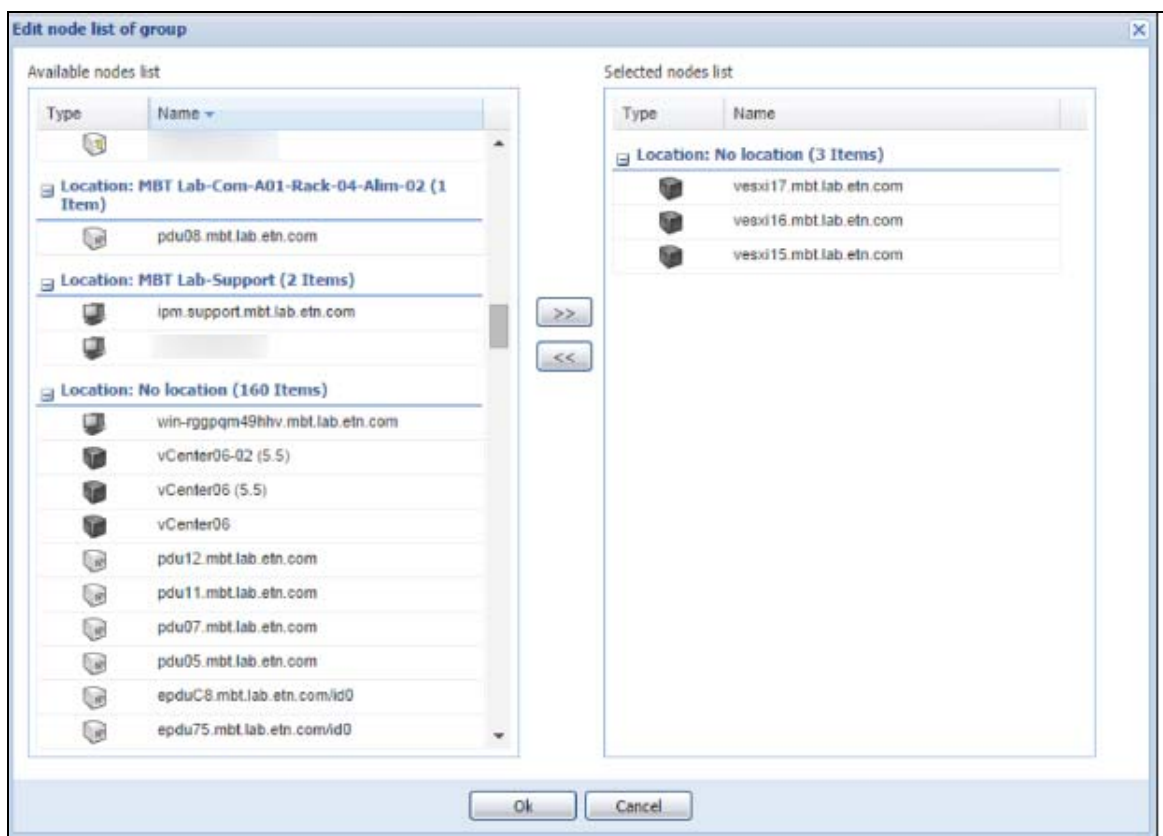

Figure 236. Edit Node List of Configuration Policy
6. In this example, select nodes from the “Available nodes list” and transfer them to the “Selected nodes list” using the right arrows, and then click **Ok** (see Figure 236).